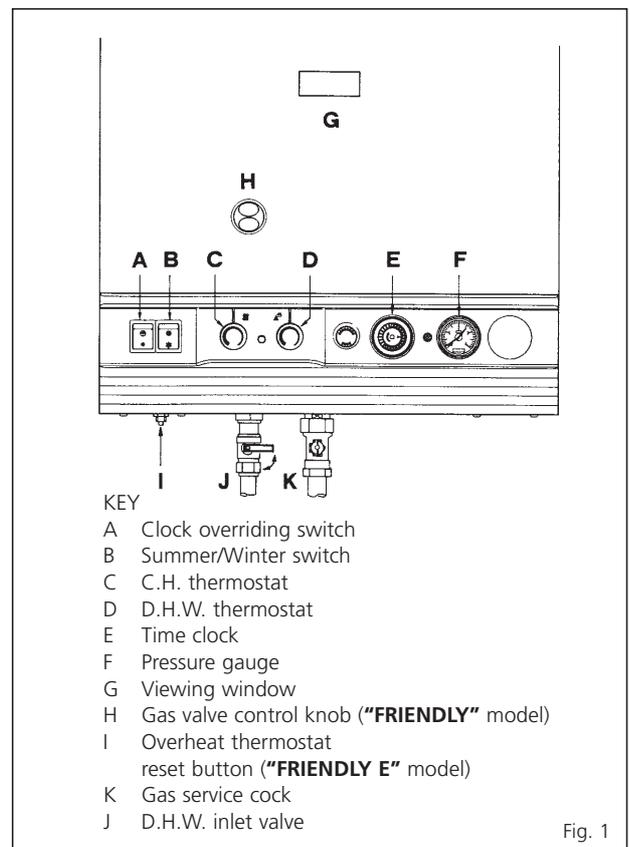

Fig. 1
### 1.3.1 To light the appliance (see fig. 1)
### 1.3.2 To turn the appliance off (see fig. 1)
The gauge (F fig. 1) on the facia panel indicates the approximate system pressure. If the normal running pressure is seen to decrease over a period of time there is a water leak and you should consult your installer or service engineer.
**NOTE: an interruption in the electricity supply whilst the burner is alight may cause the overheat thermostat to operate. If this is suspected, depress the reset button (I fig. 1) once (for "FRIENDLY" model).**